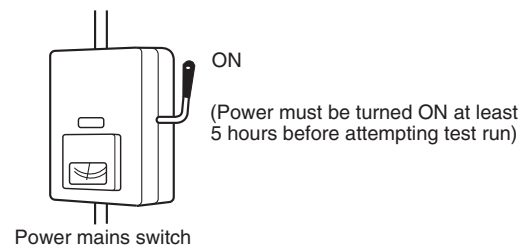

Fig. 7-1
- (1) All loose matter is removed from the cabinet especially steel filings, bits of wire, and clips.
- (2) The control wiring is correctly connected and all electrical connections are tight.
- (3) The transportation pads for the indoor fan have been removed. If not, remove them now.
- (4) The power has been supplied to the unit for at least 5 hours before starting the compressor. The bottom of the compressor should be warm to the touch and the crankcase heater around the feet of the compressor should be hot to the touch. (Fig. 7-1)